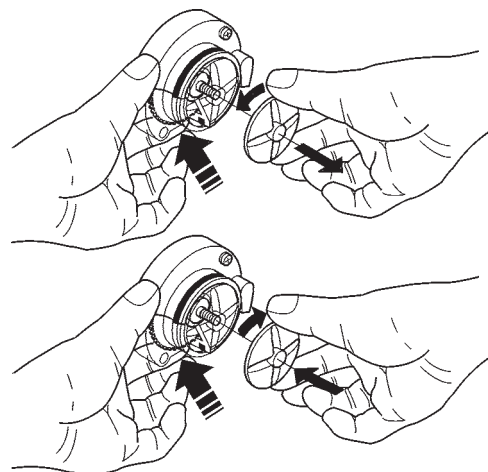

Fig. 23
- in order to remove the impellers, block the disk fitted on the mixer shaft with a finger (see Fig. 23), then rotate the wheel to undo it.